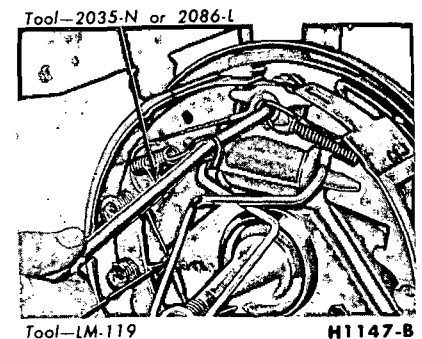

FIG. 15—Retracting Spring Installation —Typical
5. Place the cable eye over the anchor pin with the crimped side toward the backing plate. Install the primary shoe to anchor spring with the tool shown in Fig. 15.